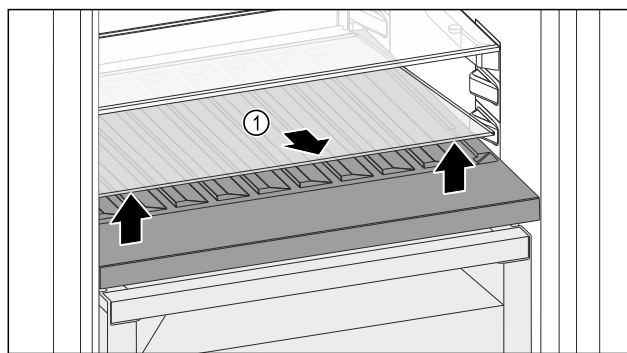

Fig. 188
- Lift the glass shelf Fig. 188 (1) at the front and remove.
- Store the glass shelf Fig. 188 (1) in a safe place outside the appliance.
- Insert the glass shelf (2) under the variable bottle rack.